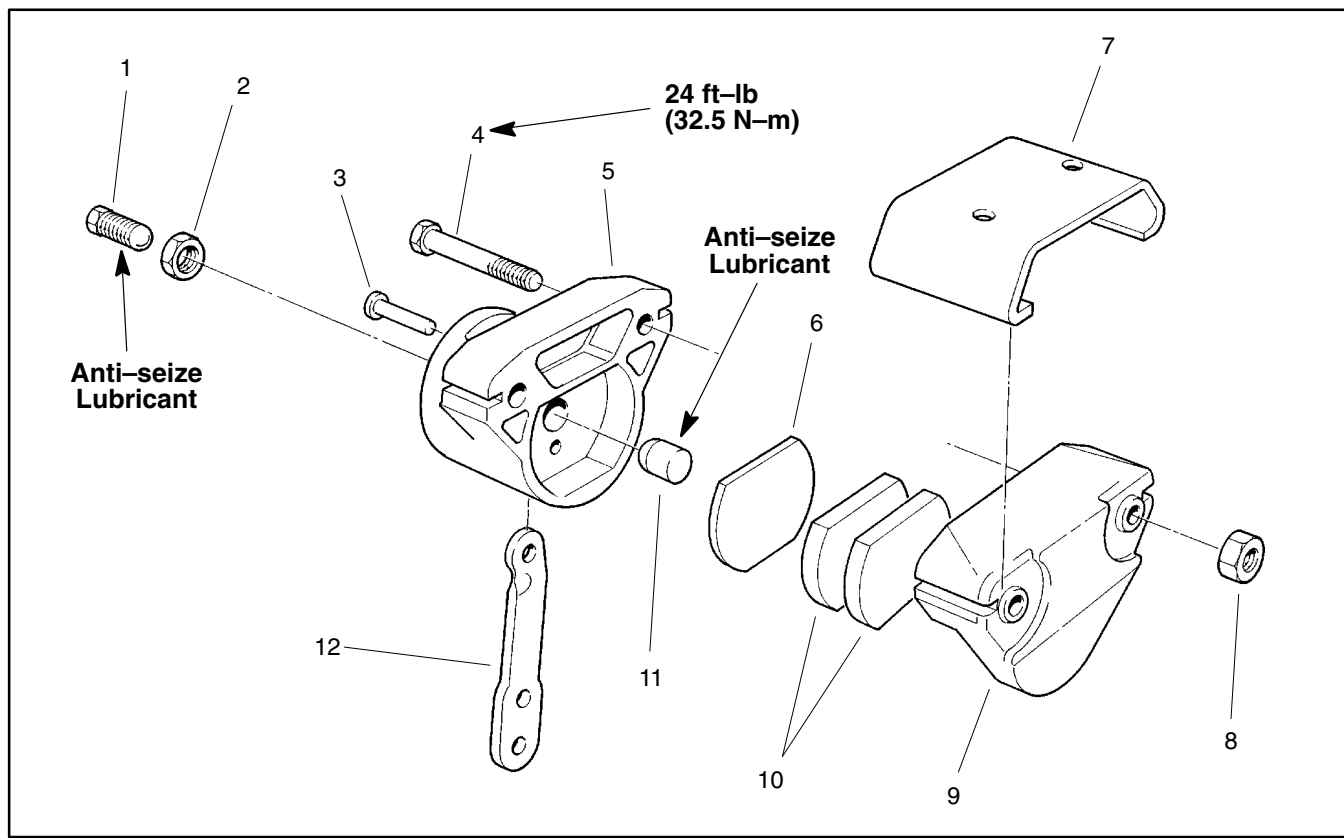

Figure 8
### Disassembly (Fig. 8)
1. Disassemble brake caliper using Figure 8 as a guide.
### Assembly (Fig. 8)
1. Assemble brake caliper using Figure 8 as a guide noting the following items: